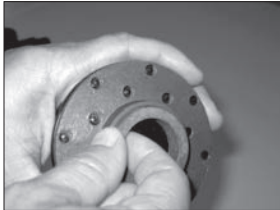

Figure 24
1. Thrust ring (item 3A) is held in-place with a press fit. Using fingers, pliers or flat head screwdriver pry ring up and out of the holder. See figure 24.